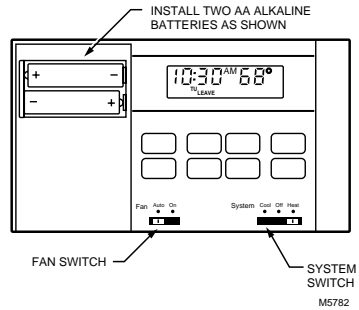

Fig. 13. Installing batteries.
4. Install the new batteries; be sure positive and negative terminals are oriented correctly. See Fig. 13.